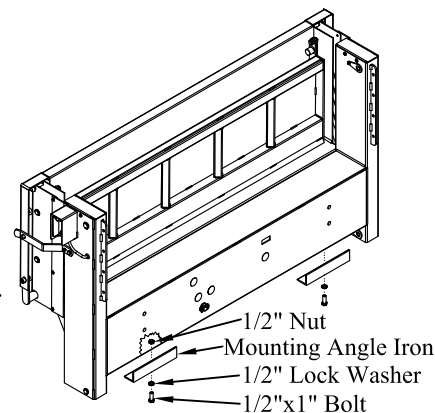

Figure 15: Mounting angle iron location.
- 1. Install** the two (2) mounting angle irons to the bottom of the liftgate (Figure 15).